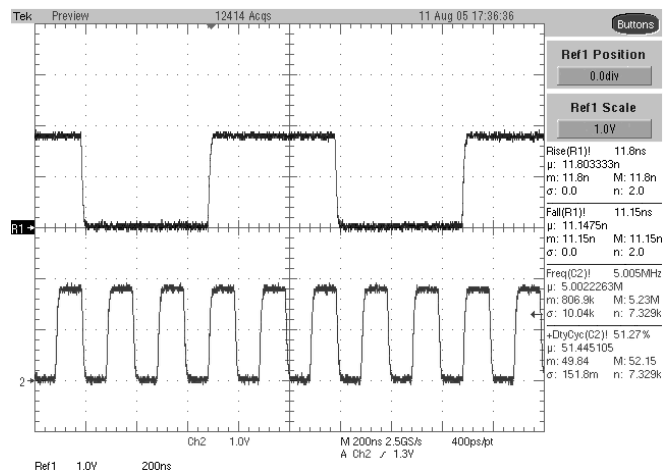

Figure 9: SIM_CLK waveforms at 1 MHz (Top) and 5 MHz (Bottom) / SIM_VCC = 1.8 V & C_{OUT} > 33 pF
- CLK and SIM_CLK are clock signals (Figures 9 and 10).